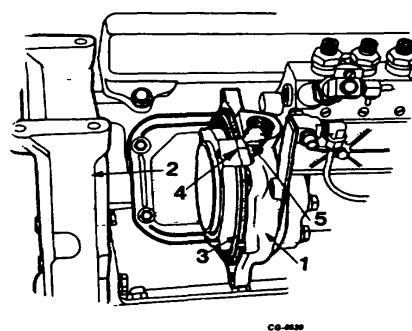

Figure 18. Timing Marks on Pump
h. Rotate drive hub clockwise until fuel flow is reduced to drip at the rate of one drop every 3 to 5 seconds. This indicates port closure or start of delivery for No. 1 pumping element. Check through sight hole and verify that timing pointer lines up with scribed line on hub (Figure 18). If new hub was installed, line should be scribed on hub at this time.